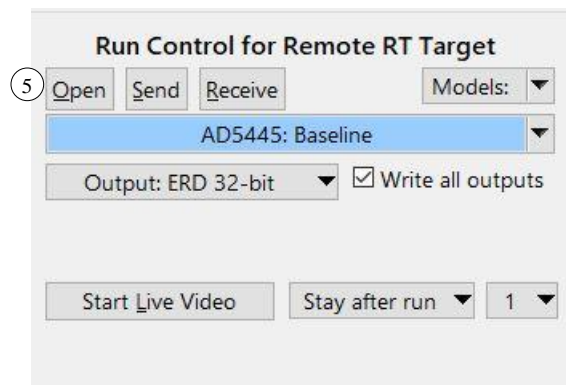
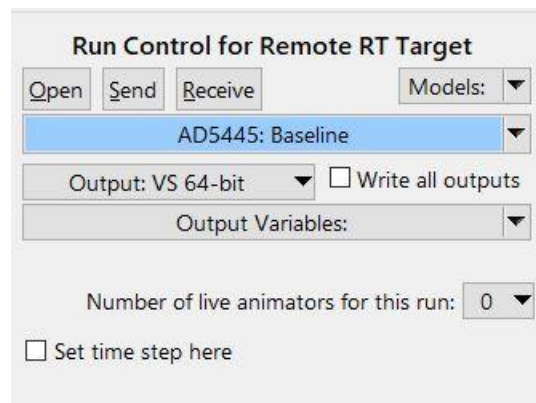

Figure 7. Run Control Screen
Figure 15. CarSim Run Control with live animator not enabled.
1. Go back to the **CarSim Run Control Screen**. Verify that the Live Animator window is enabled as shown in Figure 7. If the Live Animator is not enabled, the Run Control Screen will appear as shown in Figure 15, and you should toggle the **Number of live animators for this run** to **1**.